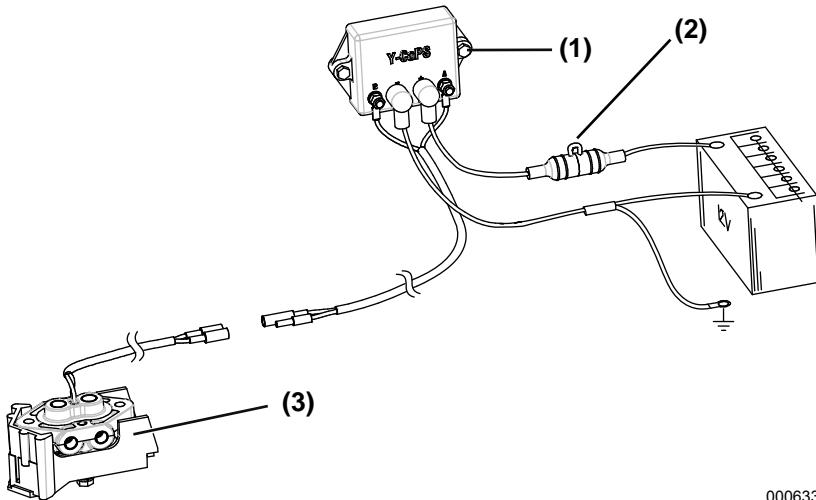

Figure 12
The Yanmar Cathodic Protection System (Y-CaPS) has a 20A in-line fuse (**Figure 12, (2)**) in the wire which connects to the positive (+) terminal on the controller. If the fuse blows, the system will not operate resulting in a loss of corrosion protection.